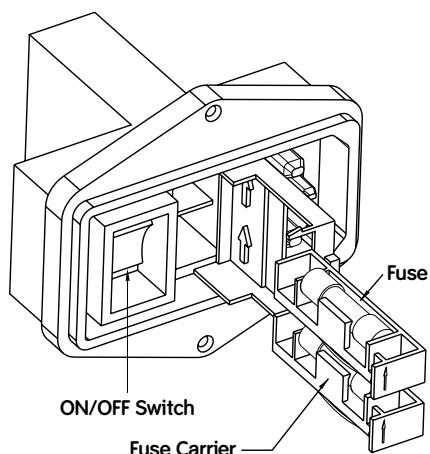

Figure 3. AC receptacle with fuses
2. Use a screwdriver to open the fuse compartment door on the AC receptacle (Figure 3) and slide out the two fuse carriers. Refer to the "Rear Panel Layout" section to locate the AC receptacle on the rear panel.